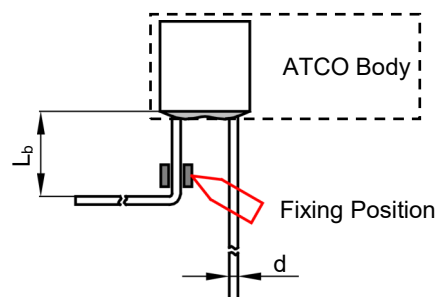

FIGURE TD-2
2. When bending leads, please use pincher or similar tools to fix the product as shown in Fig.TD-2, to avoid damaging the product.